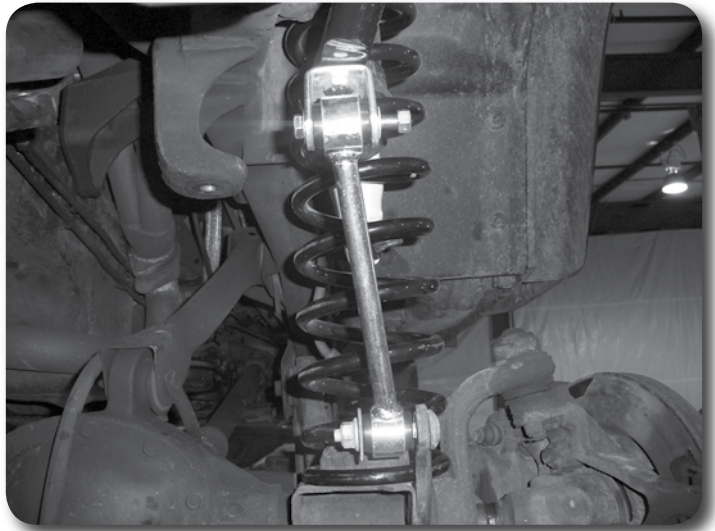

Figure 8
25. Attached the new sway bar links to the axle mount with the factory hardware and to the new sway bar u-bracket with 3/8" x 2-1/2" bolts, nuts and washers run from inside out. The end with the smaller ID sleeve will mount to the u-bracket. When mounted correctly, the links will taper in toward the center of the vehicle as the run from the axle to the sway bar (Figure 8). Torque the factory hardware to 55 ft-lbs and 3/8" hardware to 30 ft-lbs.